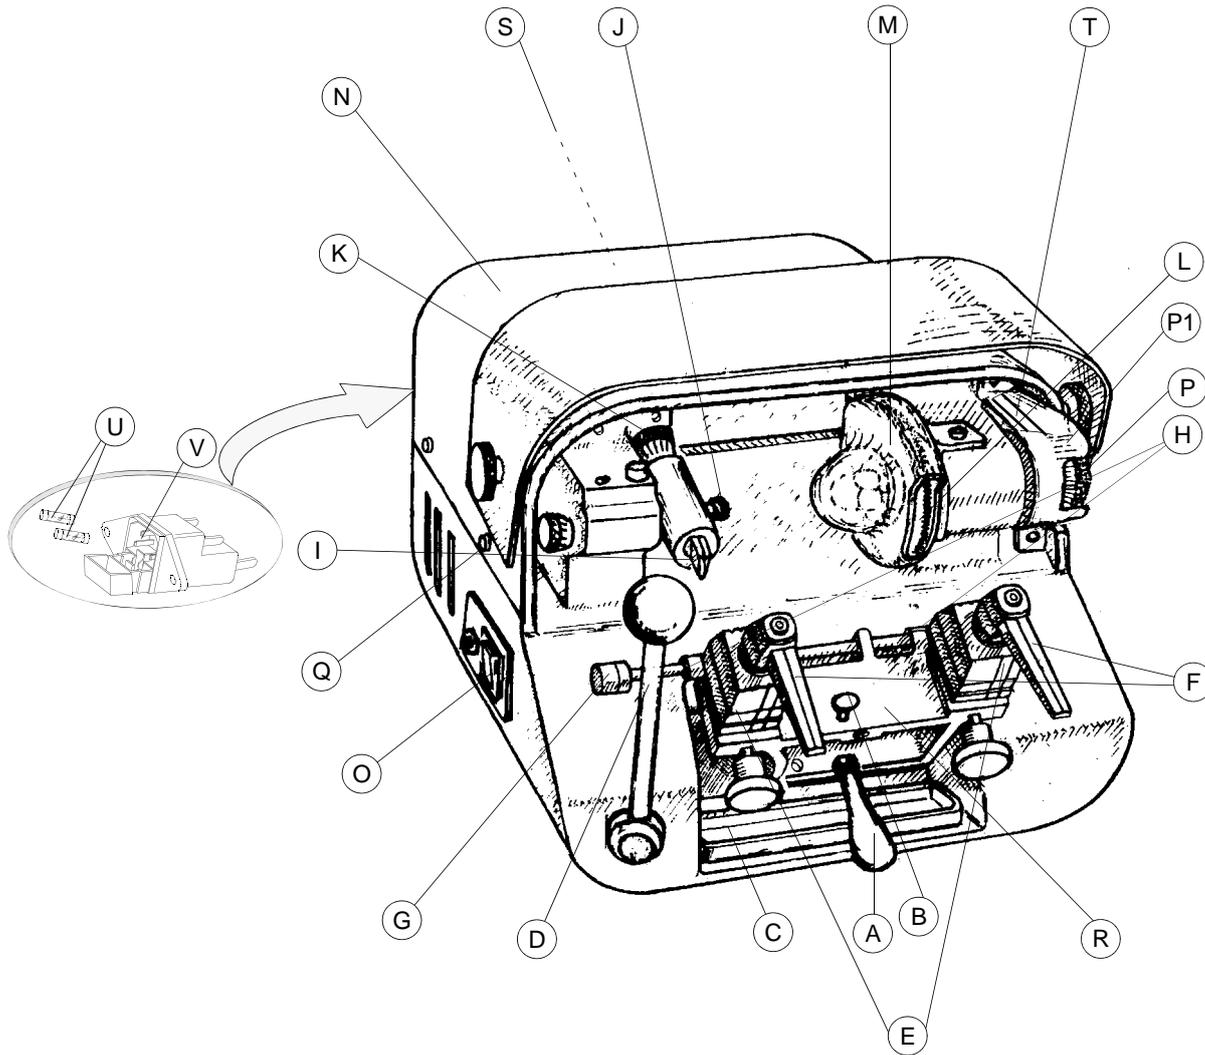

Fig. 4
The clamps are locked by two anatomical knobs (F)(fig. 4 - pag. 6) which ensure perfect grip on the keys with only slight locking pressure.